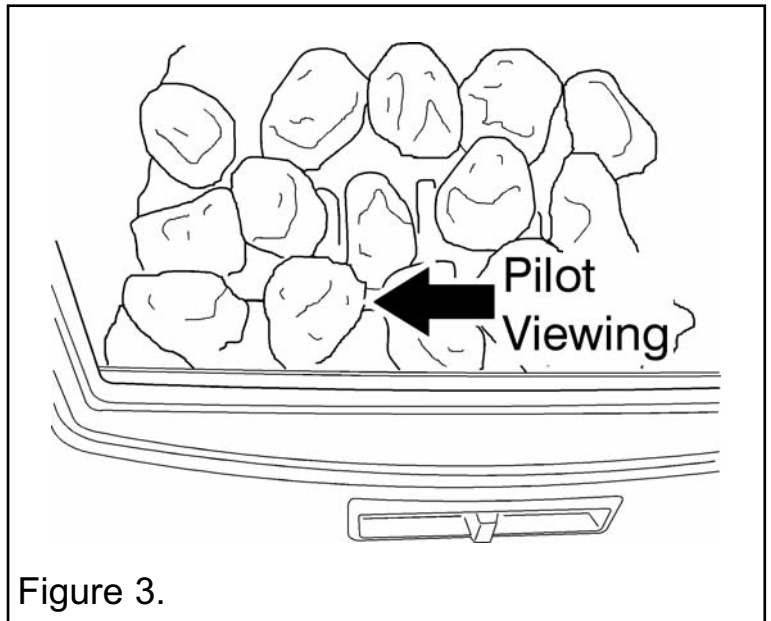

Figure 3.
- Depress the control knob and rotate it SLOWLY anticlockwise to the pilot ignition position (See figure 2). A 'click' will be heard as the integral piezo operates. A flame should appear at the pilot. The pilot can be seen by looking through the gap in the fuel effect (See figure 3). Keep the control knob depressed and hold the pilot ignition position for five seconds. When the control knob is released the pilot flame should remain lit. If a flame does not appear at the pilot then turn the control knob clockwise to the 'OFF' position and repeat the above.